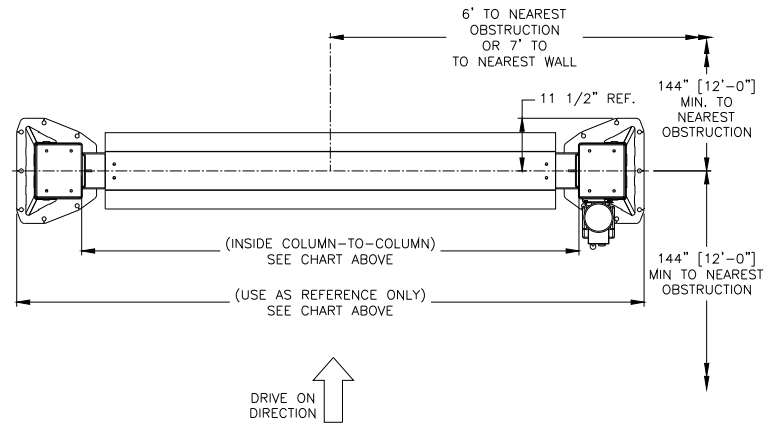

Fig1b - Service Bay Layout
- Layout the service bay according to the architect's plans or owners' instructions (**see Fig 1b**). **Failure to install in this orientation can result in personal and property damage.** Be certain that the proper conditions exist, see page 3.
- Recheck "Inside of Columns" dimension (**Fig. 1b**).